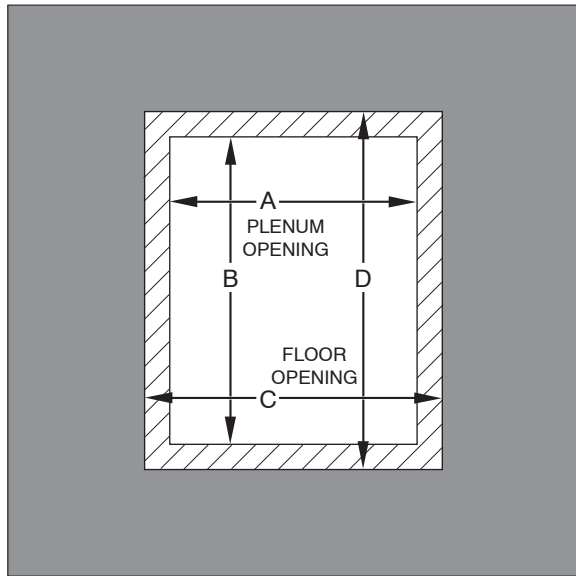
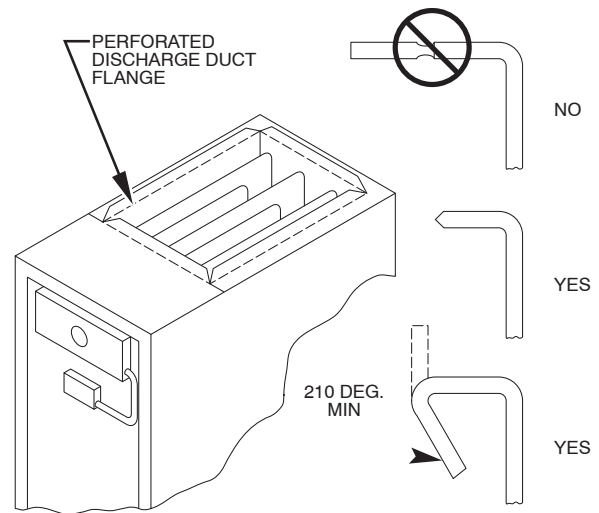

Fig. 21 - Floor and Plenum Opening Dimensions
Fig. 24 - Duct Flanges
2. Construct hole in floor per dimensions specified in Table 3 and Fig. 21.
3. Construct plenum to dimensions specified in Table 3 and Fig. 21.
NOTE: Remove furnace perforated, supply-air duct flanges when they interfere with mating flanges on coil or downflow subbase. To remove perforated, supply-air duct flanges, use wide duct pliers, duct flange tool, or hand seamers to bend flange back and forth until it breaks off. Be careful of sharp edges. (See Fig. 24.)
Do not bend duct flanges inward as shown in Fig. 21. This will affect airflow across heat exchangers and may cause limit cycling or premature heat exchanger failure. Remove duct flange completely or bend it inward a minimum of 210° as shown in Fig. 24.
Connect supply-air duct to supply-air opening on furnace. The supply-air duct attachment must ONLY be connected to furnace supply/outlet or air conditioning coil casing (when used), when installed on non-combustible material. When installed on combustible material, supply-air duct attachment must ONLY be connected to an accessory subbase or factory approved air conditioning coil casing. DO NOT cut main furnace casing to attach supply side air duct, humidifier, or other accessories. All accessories MUST be connected external to furnace main casing. Supply air opening duct flanges must be modified per Fig. 24.